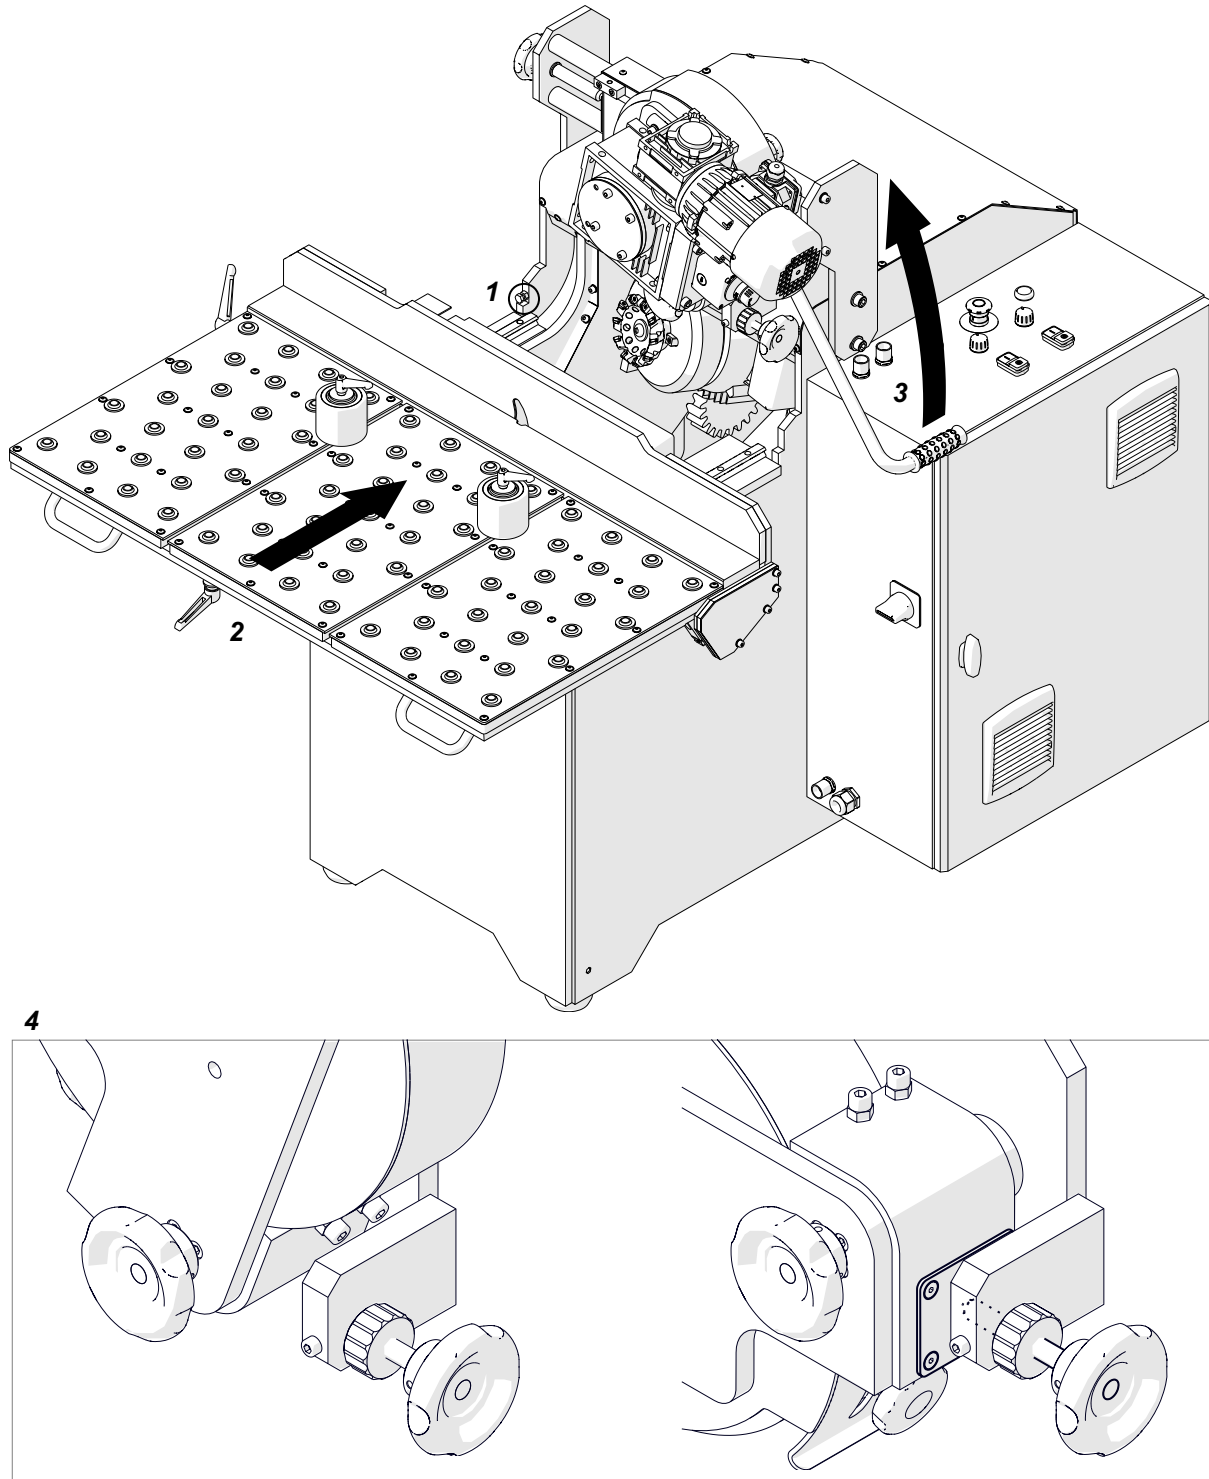

Fig. 5. Moving the table and lowering the feed unit
Move the table forward so that it touches the bolt (1, Fig. 5), and then use the lever (2) to lock the table in this position. Next, use the handle (3) to turn the feed unit so that the screw makes contact with the bumper (4).